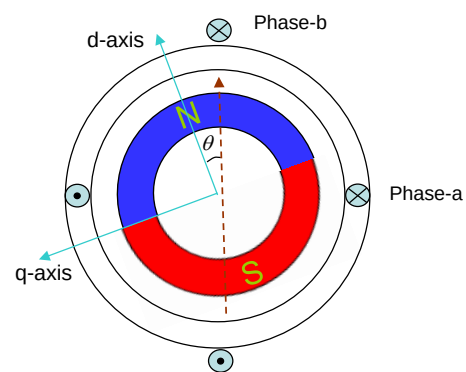

Fig. 2(b)
- (3) If the phase-a PM flux linkage waveform is expressed as: $\lambda_{pm,a} = \lambda_{mpm} \cos \theta$. (where λ_{mpm} is its peak value and θ is the rotor position as indicated in Fig. 2), please give the PM flux linkage waveform for phase-b.
- (4) If phase-a is now supplied with a current of $i_a = -I_m \sin \theta$ (where I_m is the peak value of the current), please determine the needed current waveform for phase-b, so that phase-b can produce the same torque profile as phase-a.
- (5) Please show the instantaneous torque produced by phase-a and phase-b, respectively.
- (6) Please give an expression for the total torque produced by phase-a and phase-b together.